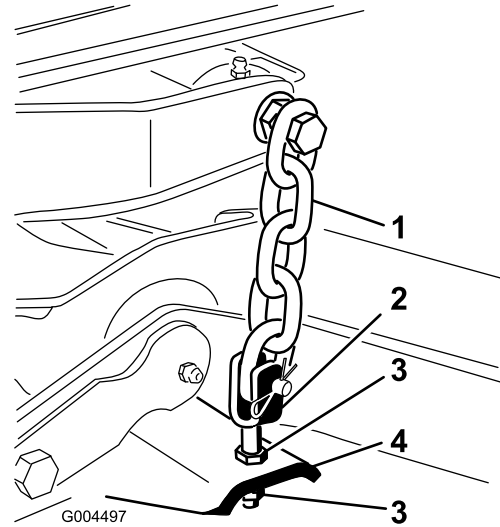

Figure 78
7. Adjust the jam nuts securing the rear deck yokes/chains to raise the rear of the deck so that the blade pitch is set to 5/16 inch (8 mm) (Figure 78).